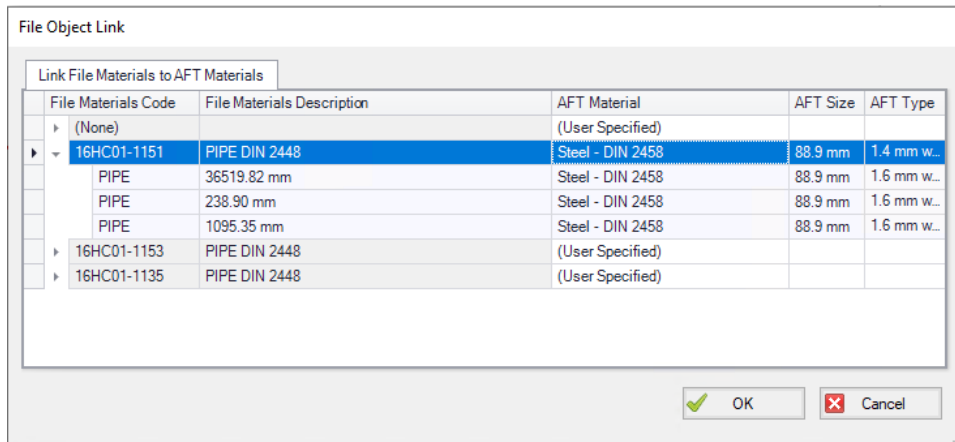

Figure 2: File Object Link window for Piping Component File Import
- **Link Materials** - Opens the File Object Link window, where groups of pipes from the .pcf file can be associated with a pipe material, size, and type in the AFT Pipe Material library. Pipes can be grouped by file schedules (i.e. item codes) or diameters, and are sorted by length within each group. The selection from the AFT Pipe Material library will overwrite any diameter information from the .pcf file. Selections made for a .pcf material will be applied to all pipes that reference that .pcf material. Pipes associated with each material can be seen by clicking the arrow on the left expand the group (Figure 2) and can be edited individually or as a group.
- Pipes** - While the AFT Pipe Material Library contains many piping materials specified by ASME and ANSI, the Piping Component File format does not always contain these materials and material attributes can be defined within .pcf files in a number of drastically different ways. Because of this, materials, nominal sizes and schedules are not assigned automatically and can be assigned using Link Materials (shown above in Figure 2). Pipes can be grouped by file schedules (i.e. item codes) if they exist or by diameter so that pipe size and material can be applied to a group of pipes quickly. Pipe inner diameter is assigned from the nominal diameter defined in the pipe's coordinates within the .pcf file as a starting point, but any sizes assigned in Link Materials will override these inner diameters within the AFT model. Alternatively, pipes can be defined after import using Global Pipe Edit.